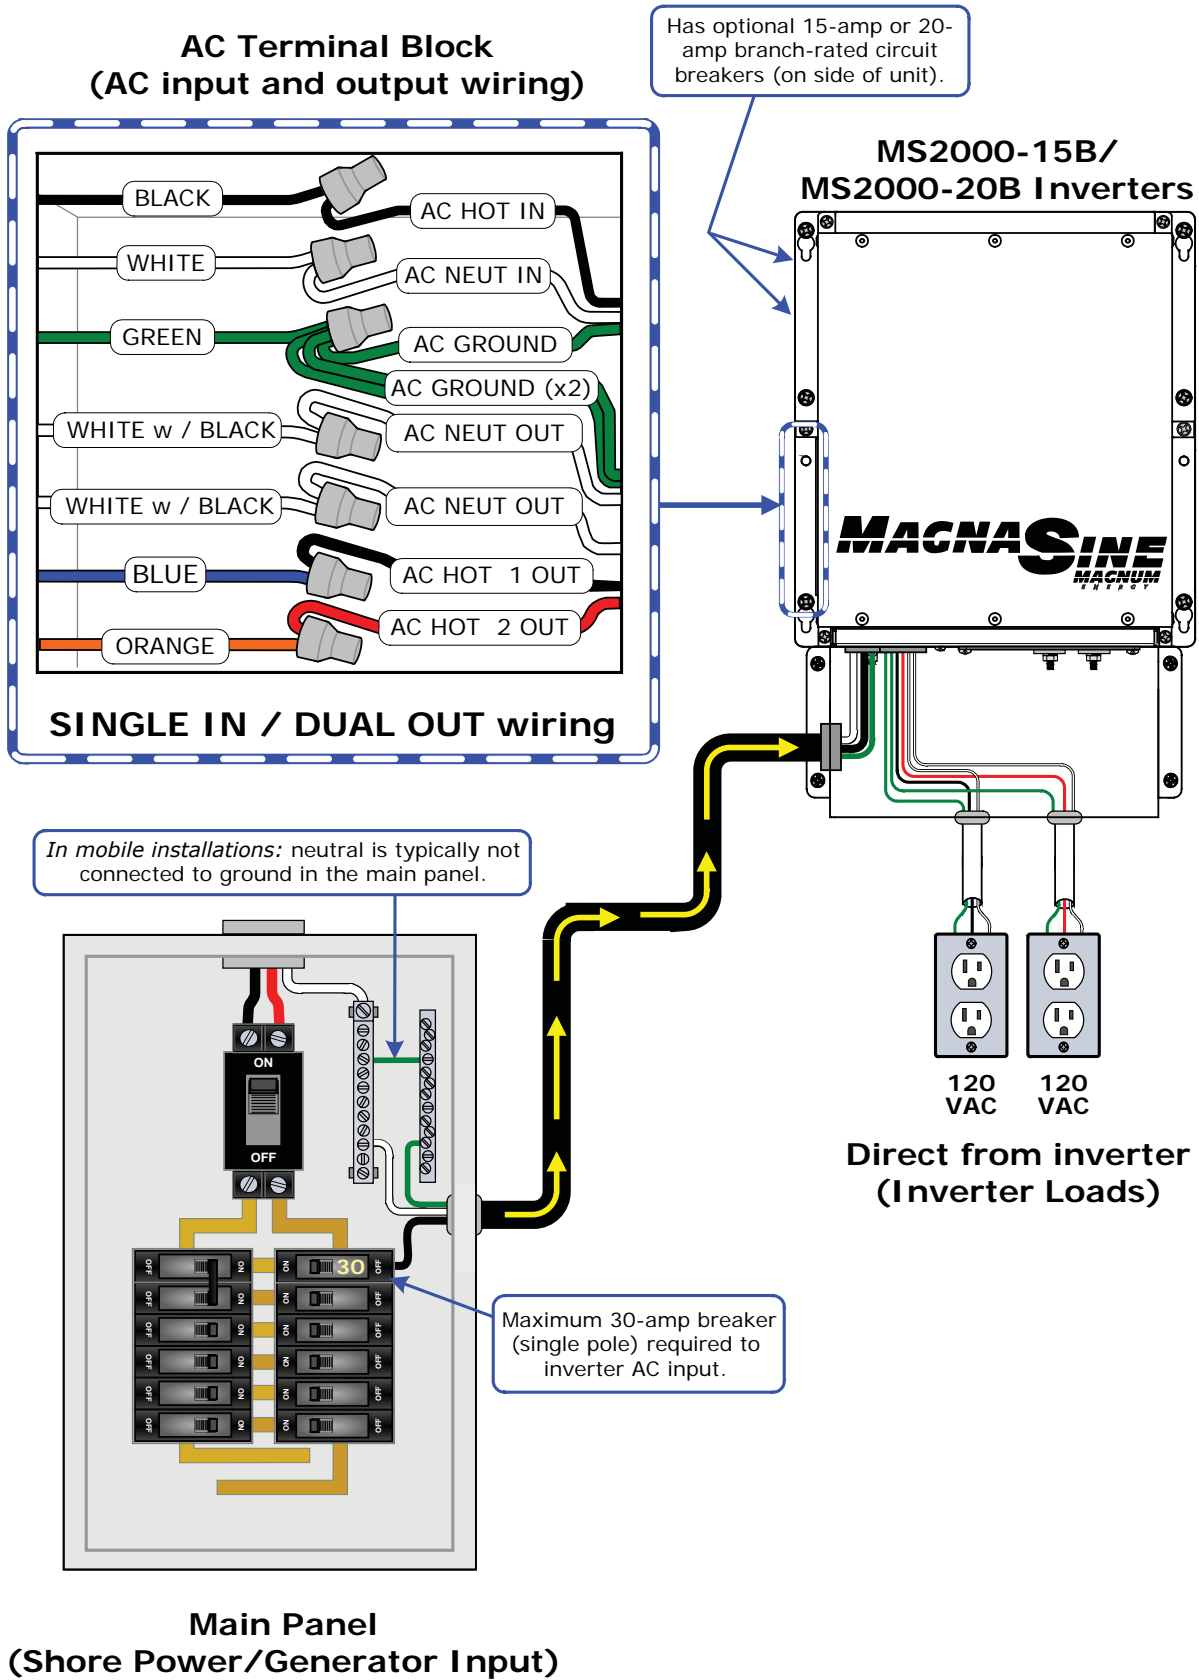

Figure 2-15, AC Wiring for Single In – Dual Out (MS2000-15B/-20B models) Configurations
Info: Depending on the AC wiring configuration, you may need to connect a wire to the inverter's HOT 2 OUT (orange) wire (see Figure 2-15).
3. Connect the inverter's NEUTRAL OUT (white w/black) wire to the sub-panel's neutral busbar (or to the neutral connections on the outlets, if using the output breaker versions - see Figure 2-15) using field wiring leads.